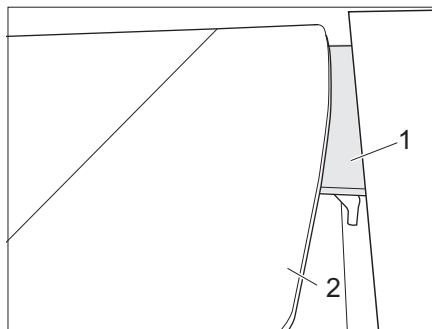
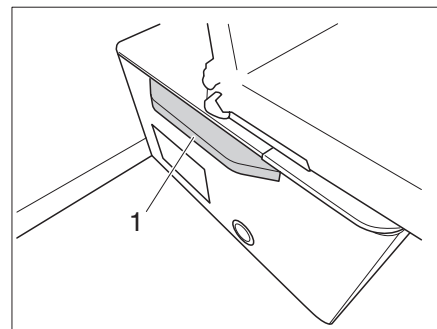

Fig. 113 Lowering the table onto the support edge
Fig. 114 Lowering the table onto the extender
- Swivel the table-top (Fig. 113,2) down onto the support edge (Fig. 113,1) or set down on the extender (Fig. 114,1) intended for this purpose.